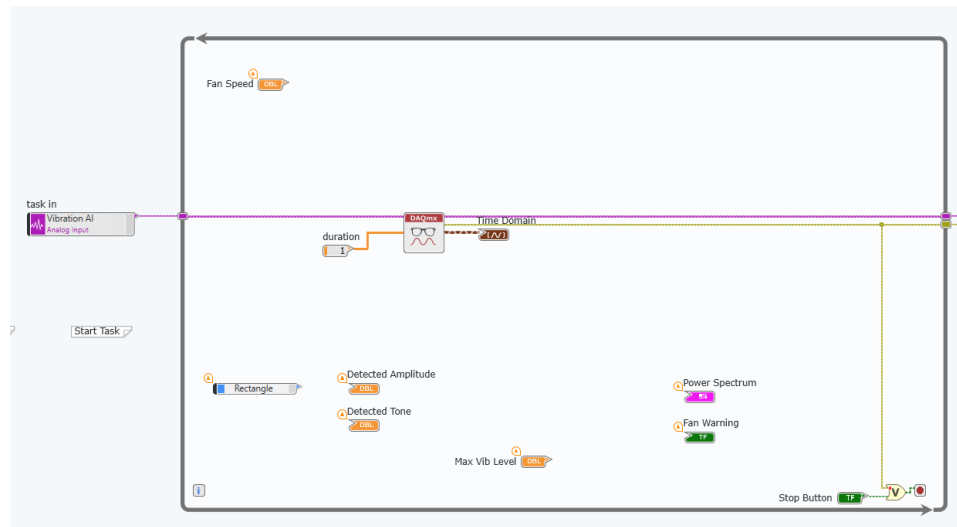

Figure 7-15 The OR function concatenates the inputs, stopping the While Loop if the code has an error or the user presses stop.
33. Wire the error wire from the DAQmx Read VI to the input of the Or function, as shown in Figure 7-15. This VI will OR the inputs to stop the while loop from executing. The code you just wrote will stop the loop if an error occurs or a user stops presses the stop button.